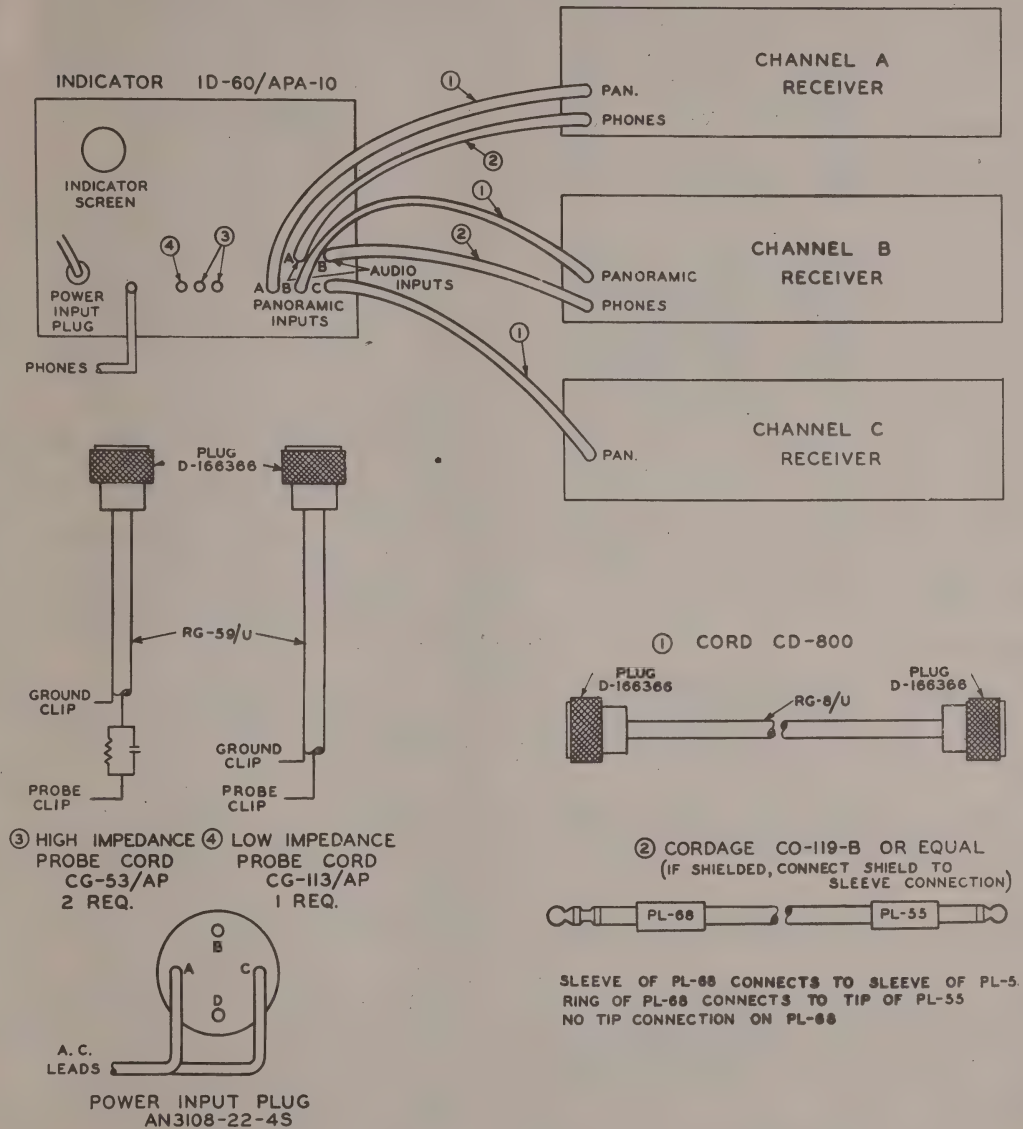
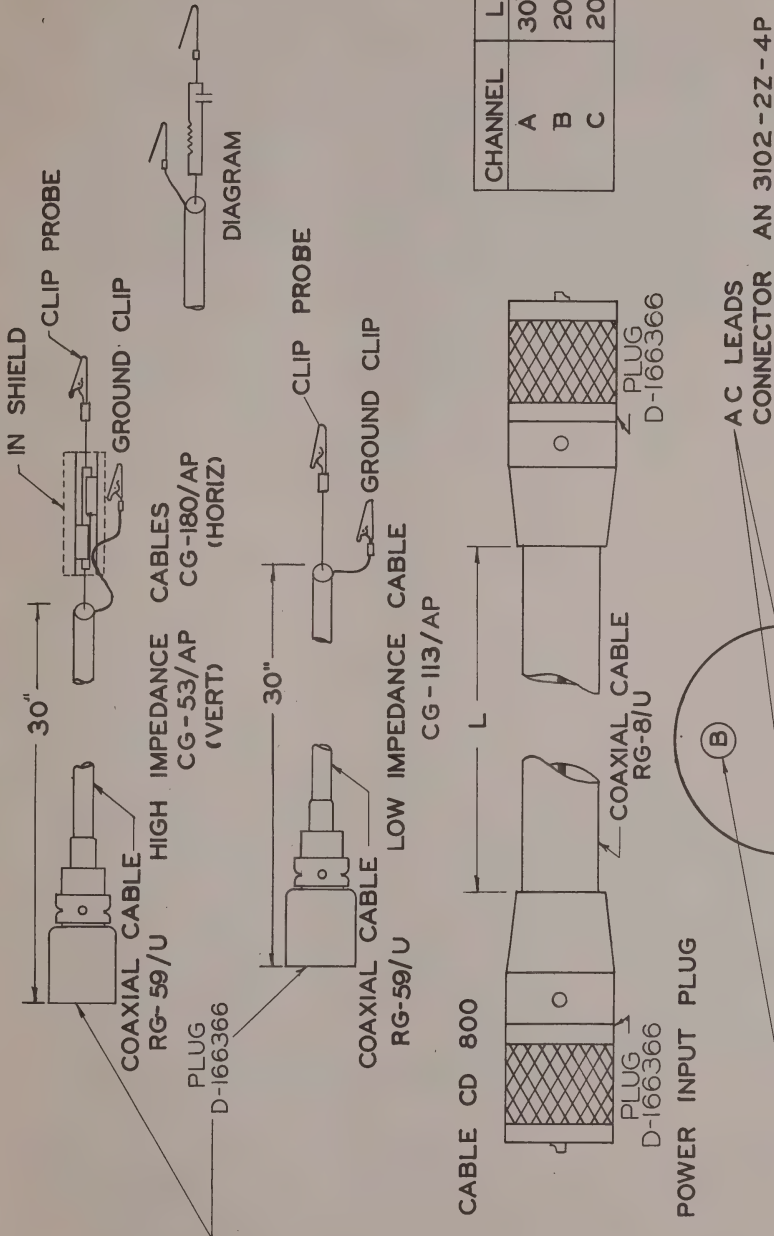

Figure 2-3. Cable Connections
Figure 2-4. Construction of Cords
c. Connect Panoramic Adapter AN/APA-10 to associated receivers as shown in figure 2-3. Connect the r-f input jacks on the unit (marked "PANORAMIC INPUTS") to the receiver outputs marked "PAN." Notice that a 30-inch cord is used for channel A, and 20-inch cords are used for B and C channels. The right angle adapter, Adapter M-359, is used on these cords. Connect audio outputs (the jacks marked "PHONES") of receivers for A and B channels to the indicator panel jacks marked "AUDIO INPUTS" using the cords shown in figure 2-4. Plug a headset equipped with a Plug PL-55 into the "PHONES" jack of Indicator ID-60/APA-10.
c. The power cable (see fig. 2-4) is cut to proper length and fitted with Adapter AN3057-12 and Plug AN3108-22-4S on one end.
(1) Make certain all cables and cords are connected properly. (See fig. 2-3.)
(2) Turn on the associated equipment, the inverters and the receivers.
(3) Turn the "ON-OFF" switch on Indicator ID-60/APA-10 to "ON" position. If the pilot lamp on Indicator ID-60/APA-10 does not appear to light, rotate the lamp bezel from zero to maximum counterclockwise position until it glows with the intensity desired.